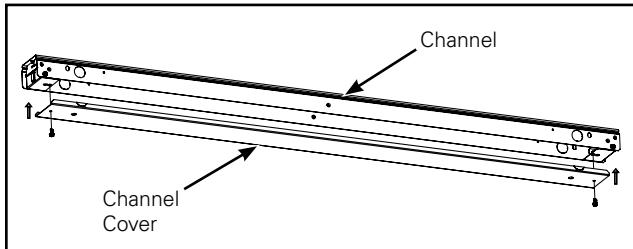

Figure 2.
2. Wire fixture according to code and install channel cover to channel with provided screws. (Figure 2.)